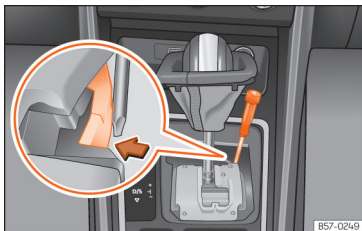

Fig. 144 Gear selector lever: manual release from the parking position.
- Using the flat part of a screwdriver, press the yellow tab sideways and keep it pressed down » » Fig. 144.